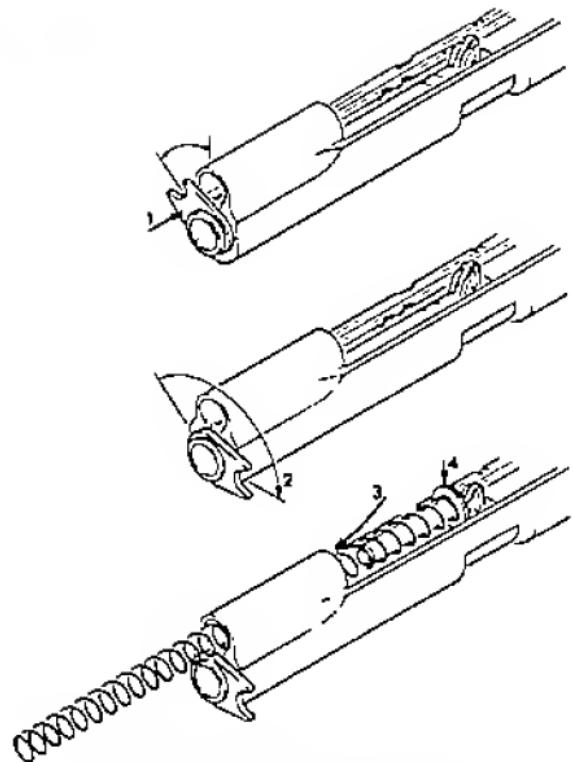

FIGURE 9-INSTALLING BARREL
2. (See Figure 9). Place barrel bushing over muzzle of barrel and into slide until it is flush with the face of the slide, (STEP 1). Turn bushing clockwise as far as it will go, (STEP 2).